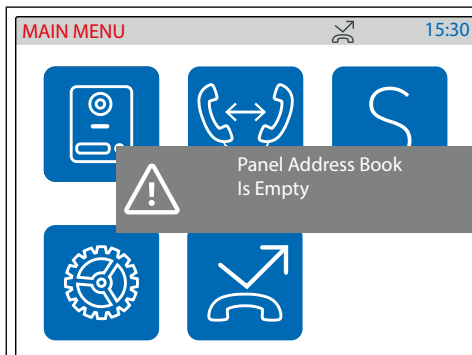

Fig. 37 Empty panel address book
- The **O** button, if the “Panels Address Book” it is not empty (**Fig. 37**), initialises a camera recall to the favourite* door panel .
- To open the door press the **O** button (**Fig. 37 on page 23**)** while to close the connection hang up the handset